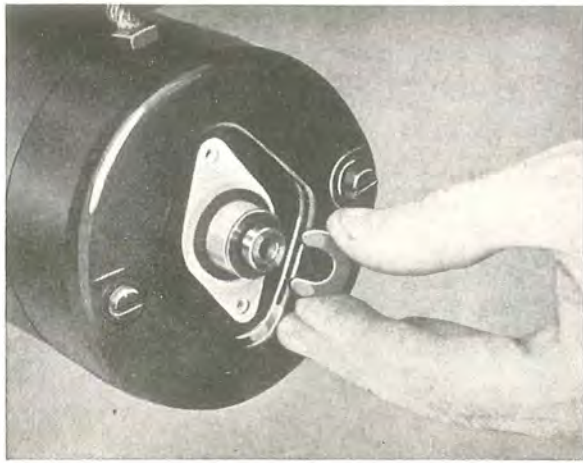

Fig. 3-31. Removing the lock washer
2. Lift off the lock washer and adjusting washers as shown in Figs. 3-31 and 3-32.